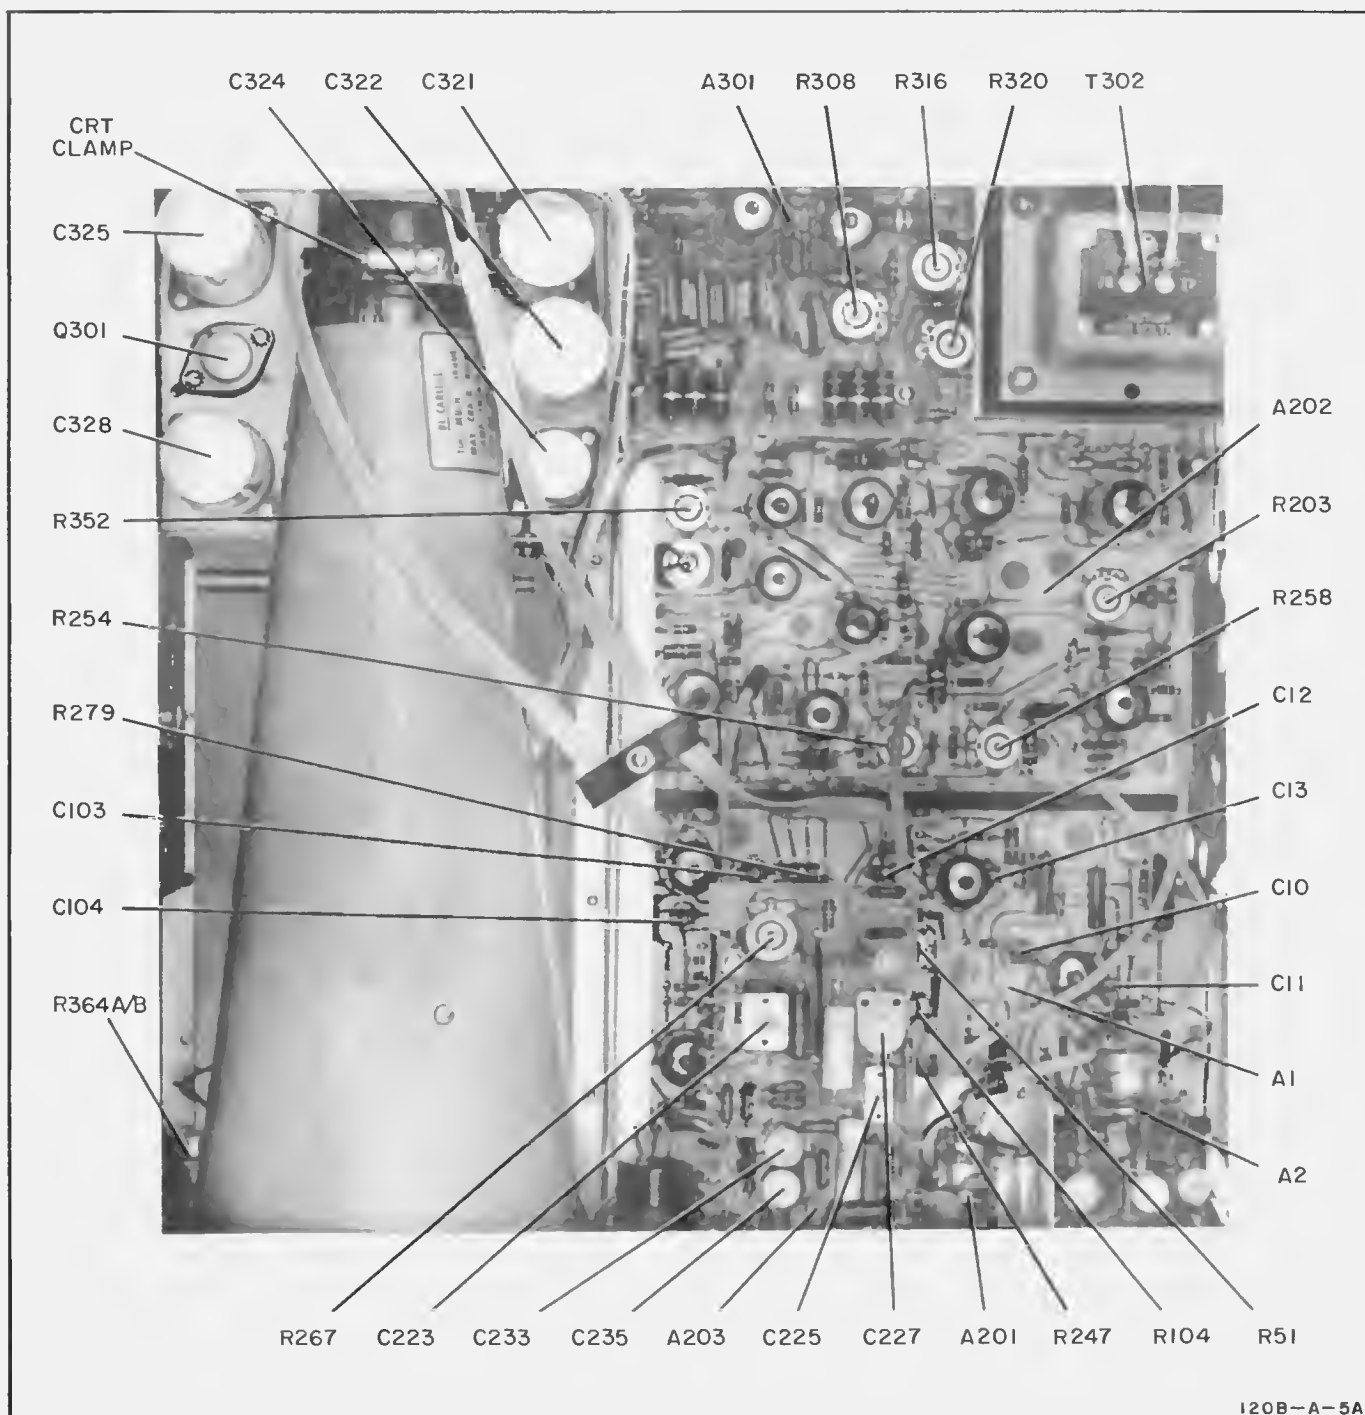

Figure 5-1. Top View, Location of Parts and Adjustments
to isolate a malfunction to a particular functional section of the Model 120B; and sectional troubleshooting, which is used to locate the faulty detail part. Figures 5-1 through 5-4 show the location of parts whose designations are not directly imprinted on a circuit board or chassis.
- Loosen clamp screw (figure 5-1) on crt base; do not remove screw or clamp.
5-29. **-150-VOLT ADJUSTMENT.** Using a dc VTVM, adjust potentiometer R352 (figure 5-1) for -150 volts dc.
- b. Adjust potentiometer R308 (figure 5-1) for a voltmeter reading of -2500 volts.